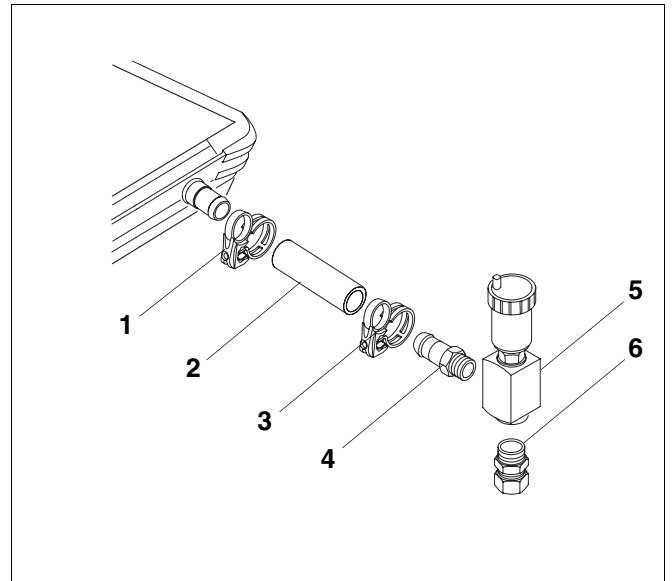

Fig. 5 Collector connection
- Insert the straight compression fitting $R\frac{3}{4} \times 15$ mm (Fig. 5, **Item 6**) into the air vent (Fig. 5, **Item 5**).